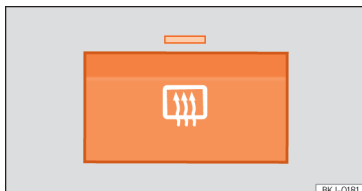

Fig. 146 With the air conditioning controls: heated rear window.
- Press the demisting button »» Fig. 146